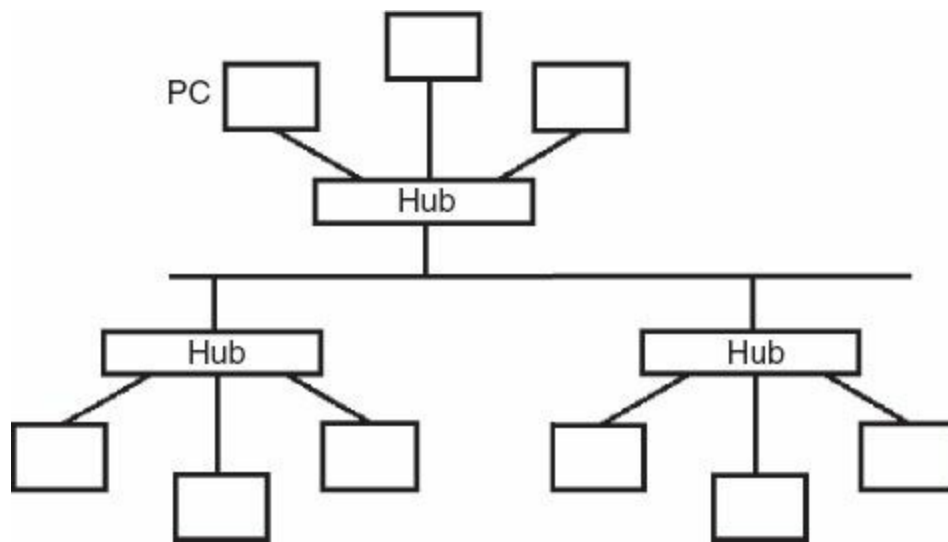

FIGURE 11.6 Hybrid topology.
- Hybrid topology: A mixture of other topologies connected together as shown in Fig. 11.6. The cable, which connects all topologies together, is called the backbone. Each network topology is connected to the backbone through a device called the bridge.